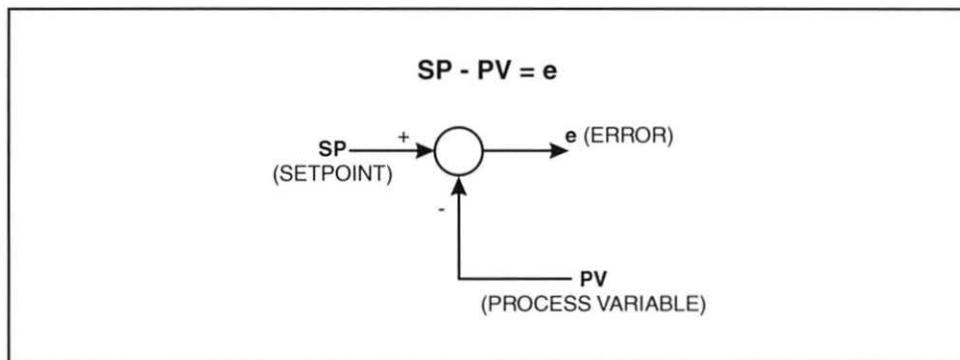

Figure 3. Circle Diagram Representing PV, SP, and Error
A circle, often referred to as a summing junction, represents the comparison of two signals. The polarity of the signals is indicated outside the circle, as figure 3 shows. This comparison is most often an addition or subtraction of the signals.
Notice in figure 3 that the setpoint (SP) enters the circle on the left side. The plus sign near the line where it enters indicates that SP is a positive variable. The process variable (PV) enters the circle on the bottom and has a negative polarity. The output of this block is the error signal, indicated by the small e symbol. Taking the visible information and combining it gives you the equation for this block, $SP - PV = e$.